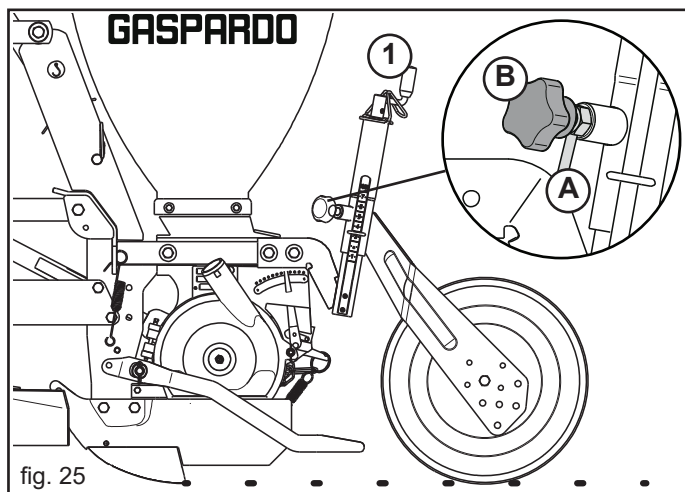
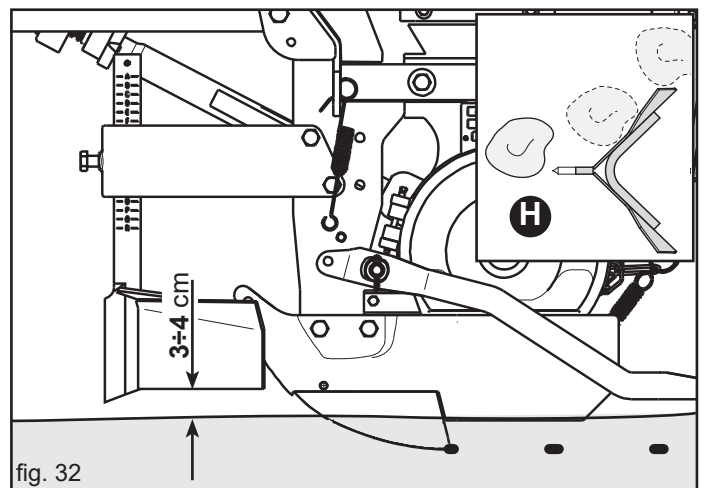

fig. 25
fig. 32
- Loosen the nut (A, Fig. 25) and the knob (B);
- The handle (1, Fig. 25) varies the height of the furrow opener blade, and so determines the depth of the furrow on which to place the seed. The graduated indicator serves to adjust all the furrow openers at the same depth.
- Tighten the knob (B, Fig. 25) and the nut (A).
The action of the front clod clearer is crucial to correct and homogeneous sowing; it allows the track of the element's depth wheels (1, Fig. 25) to be cleared of the largest clods (H, Fig. 32) that could cause irregular planting depth.
- On the outer element only, lower the front clod clearer to 3 to 4 cm from the level created by the depth wheels of the seeding element (Fig. 32).